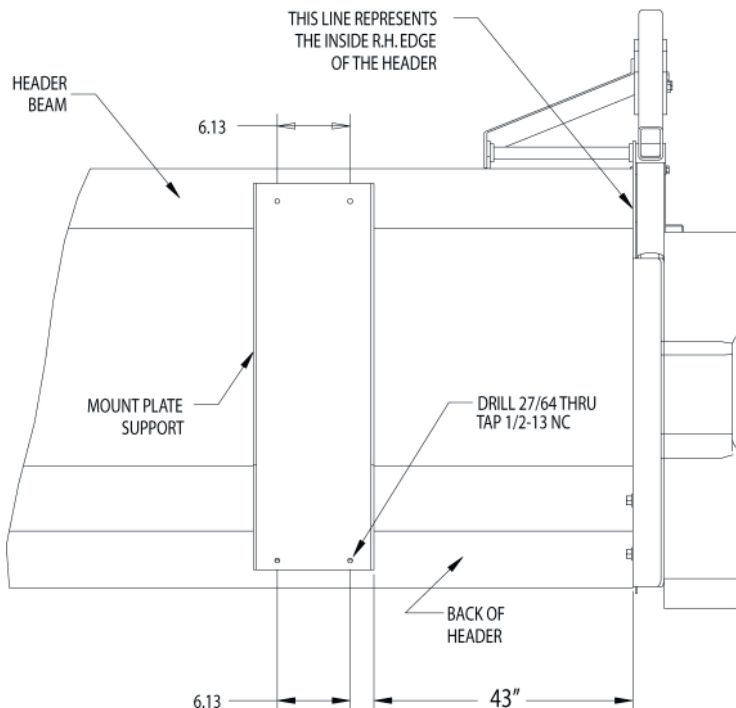

Figure 10, Mount support plate location
1. Line up the gearbox mount bracket 43" from the inside RH edge of the header as shown in Figure 10. Make sure the bracket is pushed up as far as possible against the header beam. Mark the four bracket holes on the header.